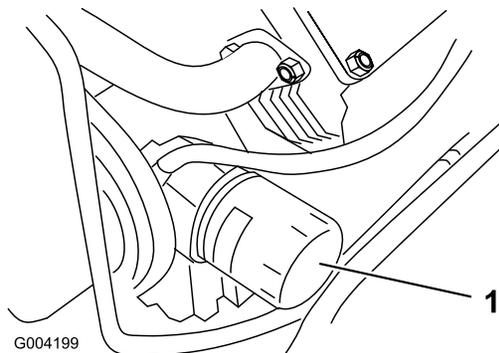

Figure 37
3. Remove the old filter (Figure 37) and wipe the surface of the filter adapter gasket.